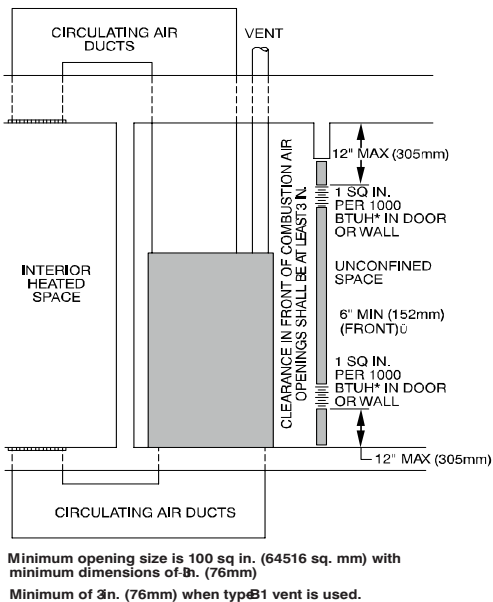

Fig. 7 – Air for Combustion, Ventilation, and Dilution from Indoors
- Combining spaces on same floor level. Each opening shall have free area of at least 1 in.2/1,000 BTUh (2,000 mm²/kW) of the total input rating of all gas appliances in the space, but not less than 100 in.2 (0.06 m²). One opening shall commence within 12 in. (300 mm) of the ceiling and the second opening shall commence within 12 in. (300 mm) of the floor. The minimum dimension of air openings shall be at least 3 in. (80 mm). See Fig. 7.